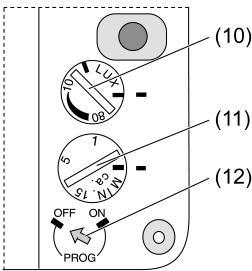

Figure 9: Adjuster
- Turn brightness adjuster (10) to the desired value (Figure 9). Recommendation: A setting of 10 lux activates the device at the start of twilight.
- Turn switch-on time adjuster (11) to the desired value (Figure 9). The switch-on time can be set from approx. 10 seconds to approx. 15 minutes.
- Turn rotary switch **PROG** (12) to **ON** to activate the programming mode (Figure 9).